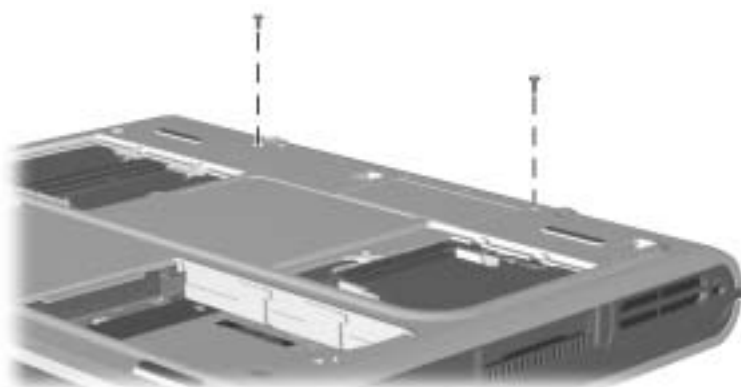

Figure 5-16. Removing the LED Cover Screws
3. Remove the two TM2.5 × 8.0 screws that secure the LED cover to the base enclosure (Figure 5-16).